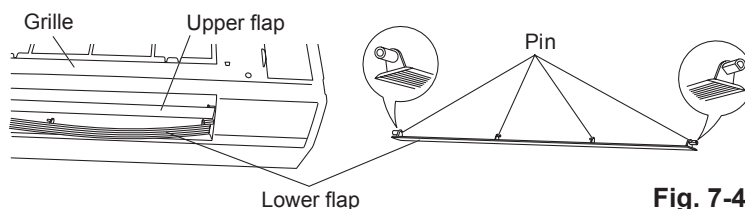

Fig. 7-4
- Warp the lower flap to take out the pins and remove the lower flap. (Fig.7-4)
- Warp the lower flap and fit the pins to the grooves on the grille to attach the flap. (Fig.7-4)